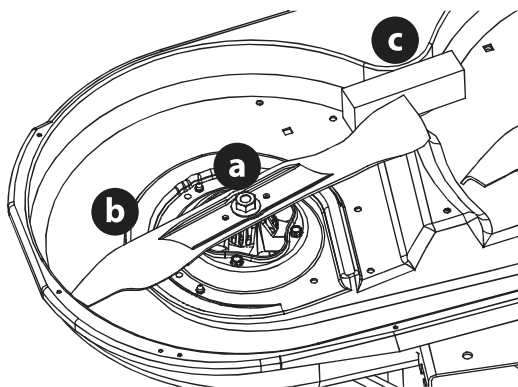

Figure 50
2. Place a block of wood (c) between the deck housing and the cutting edge of the blade (b) to help in breaking loose the hex nut (a) securing the blade (b). Use a 15/16 inch wrench to loosen the hex nut (a) (Figure 50).